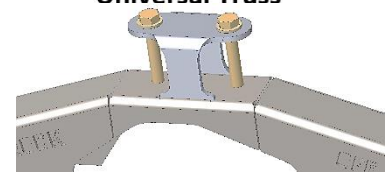

Figure 14
- 58. Weld upper control arm bracket to truss (see figure 14). **Box Truss:** Be sure holes are aligned in the bracket/truss and leave 2-5/8" plus some wiggle room for mounting control arms. **Plate Truss:** Using the bracket as a template: place the bracket flush to front edge of truss and directly over the axle centerline, then mark the location of holes to be drilled. Drill the two holes starting with a small drill size and ending with 9/16" Use plenty of oil. Be sure bolt holes are aligned in the bracket/truss and leave 2-5/8" plus some wiggle room for mounting control arms before welding.
- 59. Assemble UCA mounting bolts and nuts from hardware kit 150 onto truss (see figure 14 & 15). Snug bolts and weld nuts to bottom of truss. **Box Truss:** Stitch weld the truss gusset into the inside of the truss. Ensure holes in gusset are aligned to truss (if applicable).